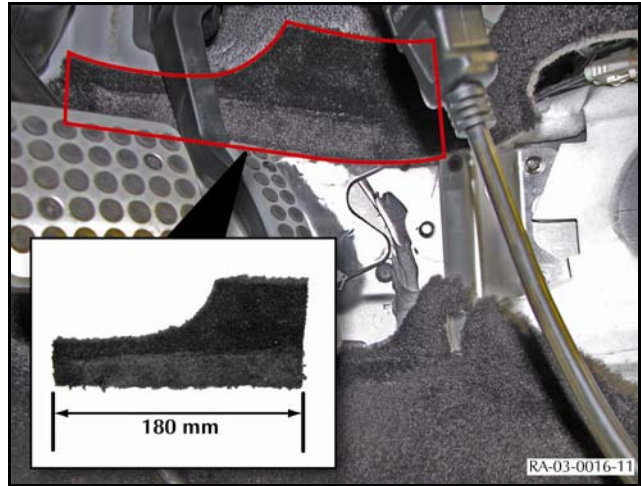

Figure 10
- 25. Cut and remove the piece of carpet that is above the position for the scuff plate (refer to Figure 10). Discard the removed carpet.